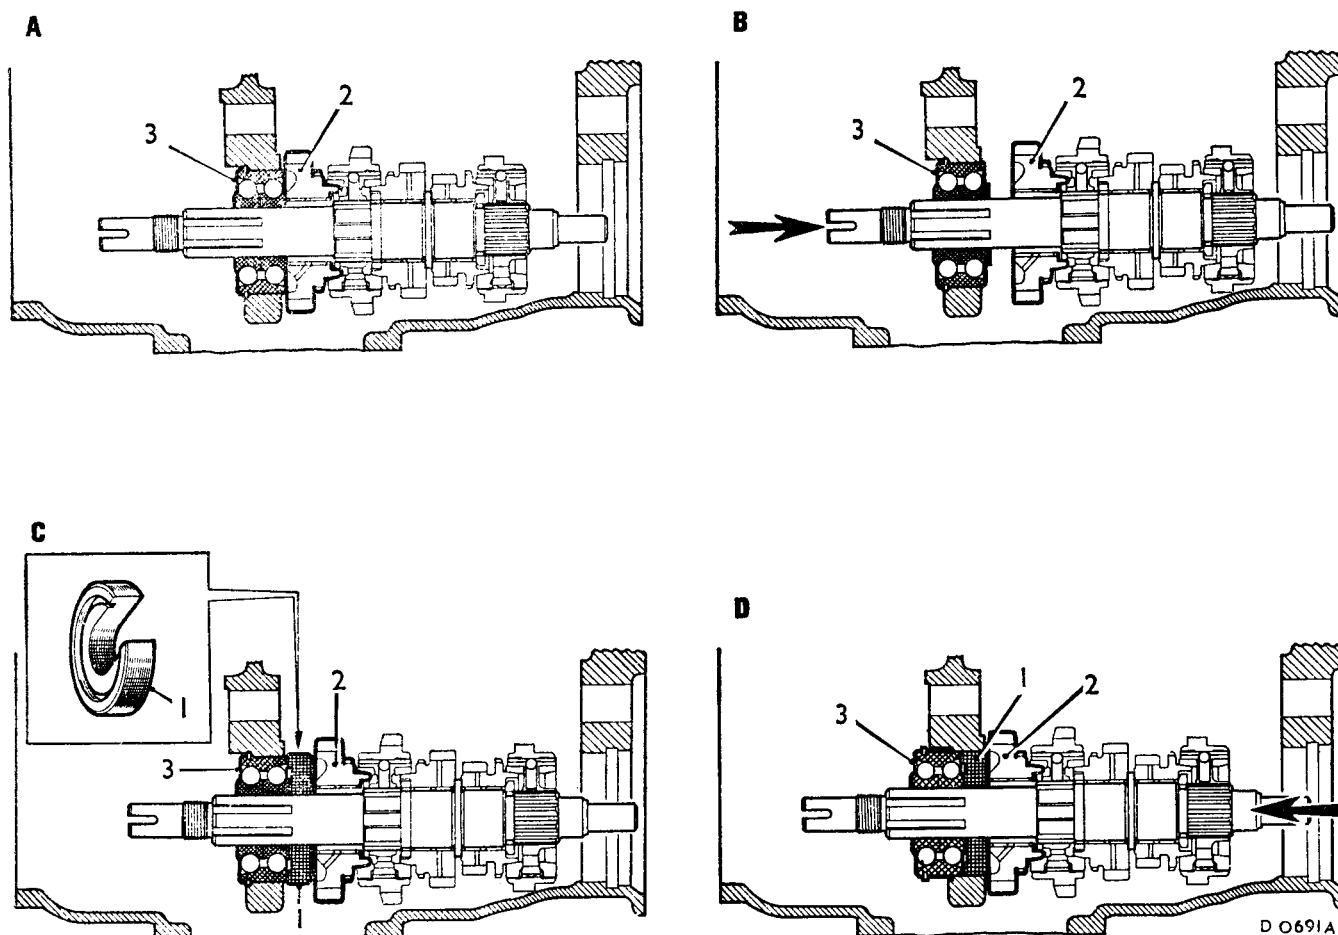

Fig. F.2
18. Refer to Fig. F.2. Drift the third motion shaft backwards, as indicated by the arrow in (B), until a special Service tool 1 can be placed between the first speed gear 2 and the bearing 3 as illustrated in (C). On three-speed synchromesh gearboxes use 18G 613, and on four-speed units 18G 1127 with their relieved side towards the bearing. These two tools must not be interchanged, or the bearing or casing will be damaged. Drift the third motion shaft forward as illustrated in (D), to push the bearing 3 from the web, taking care not to damage the selector forks. Pull the bearing from the shaft, and lift the shaft from the casing.